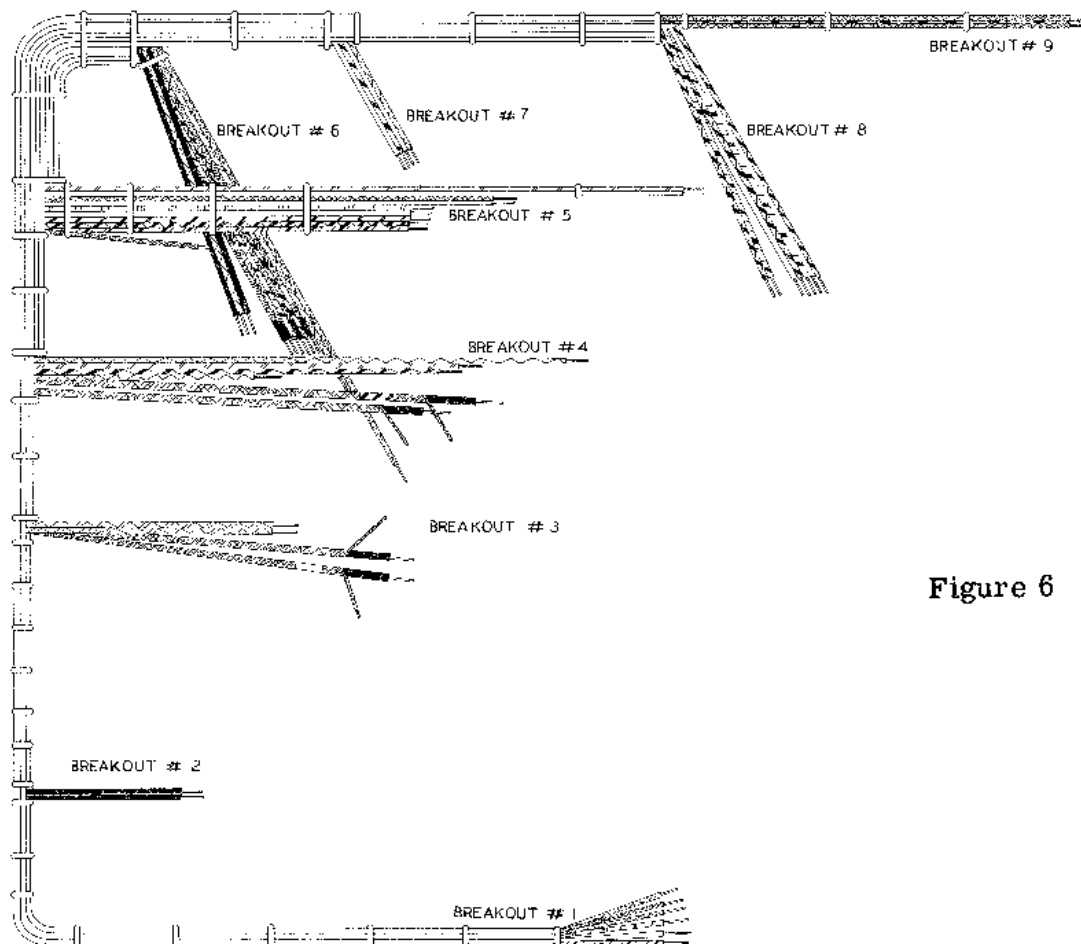

Figure 6
- () Run the AC line cord through grommet AB. Tie a knot 2 1/2" from the end, as shown in Pictorial 3. Connect one lead to AD1 (S2); connect the other lead to AS1 (NS).
- () Cut a piece of green wire to a 4" length, strip ends. Connect one end to AO5 (S); the other end will be connected later.
- () Cut a piece of blue wire to a 4" length, strip ends. Connect one end to AO4 (S); the other end will be connected later.
- () Cut a piece of yellow wire to a 3" length, strip ends. Connect one end to AO3 (S); the other end will be connected later.
- () Cut a 1 3/4" length of bare wire, and tin the ends. Connect one end to the center post of the coaxial jack AH (S). Connect the other end to AG3 (NS). See Detail 5 page 45.
- () Cut a 1 1/4" length of bare wire. Connect one end to AG2 (S); connect the other end to the ground lug adjacent to AG3 (S).
- () Cut an 8 1/2" length of heavy red insulated wire; strip ends. Connect one end to AG1 (NS); the other end will be connected later.
- () Follow Pictorial 3 for the correct placement of the wiring harness; breakouts are numbered on Figure 6. Locate breakout #1; this is the end that will be run through grommet AP. This breakout consists of 6 wires; white, brown, gray, green, violet and yellow. Run breakout 1, 2, 3, 4 and 5 through grommet AP, feeding the harness from the front towards the back of the chassis. Breakout #6 should be in front of the chassis partition; this breakout has 4 shielded wires in it. (Recheck the harness placement to be certain of proper placement before proceeding.)
- () Connect the green wire from Breakout Number 1 to AE5 (S).
- () Connect the white lead from Breakout Number 1 to AE6 (S).
- () Connect the gray lead from Breakout Number 1 to AF2 (S).
- () Connect the brown lead from Breakout Number 1 to AF3 (S).